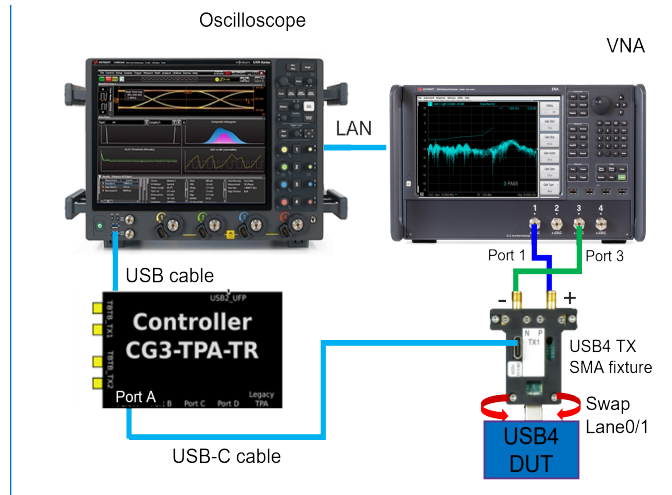

Figure 74 Tx Return loss test setup with Tx SMA test fixture
- 1 For the physical connections between the DUT & the Oscilloscope, see the connection diagrams in Figure 74 and Figure 75.